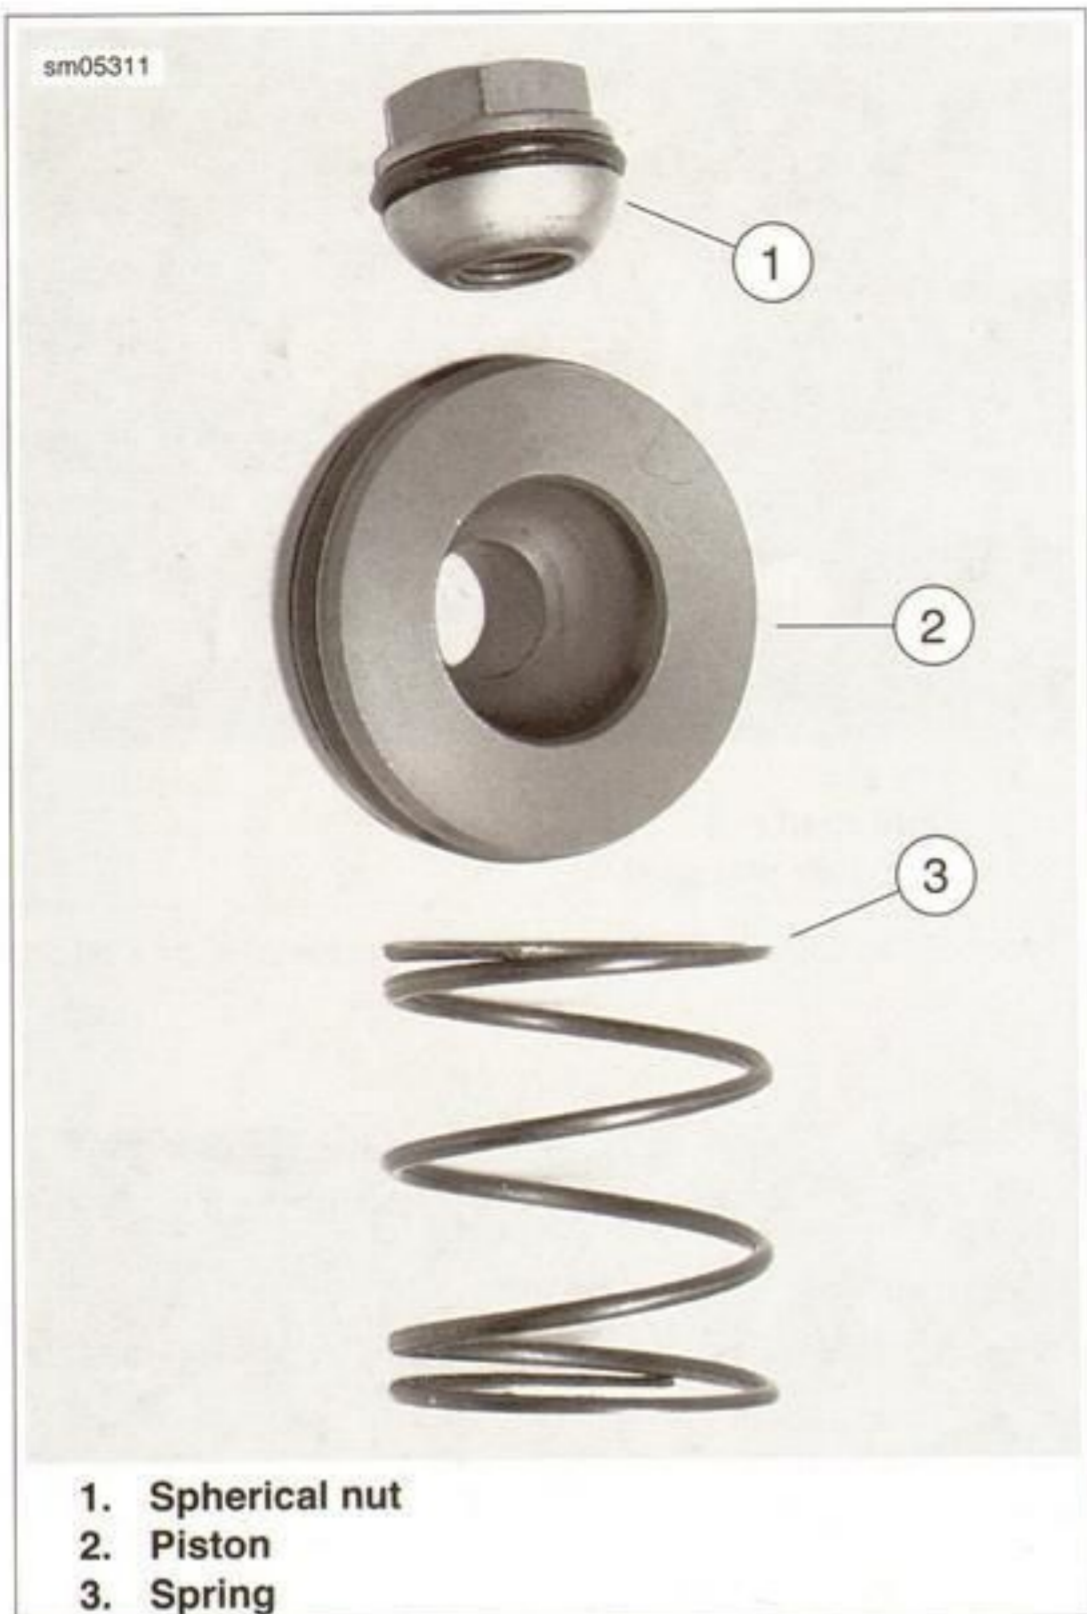

Figure 6-18. Actuator Components
6. See Figure 6-18. Remove the spherical nut (1), the piston (2) and the spring (3).